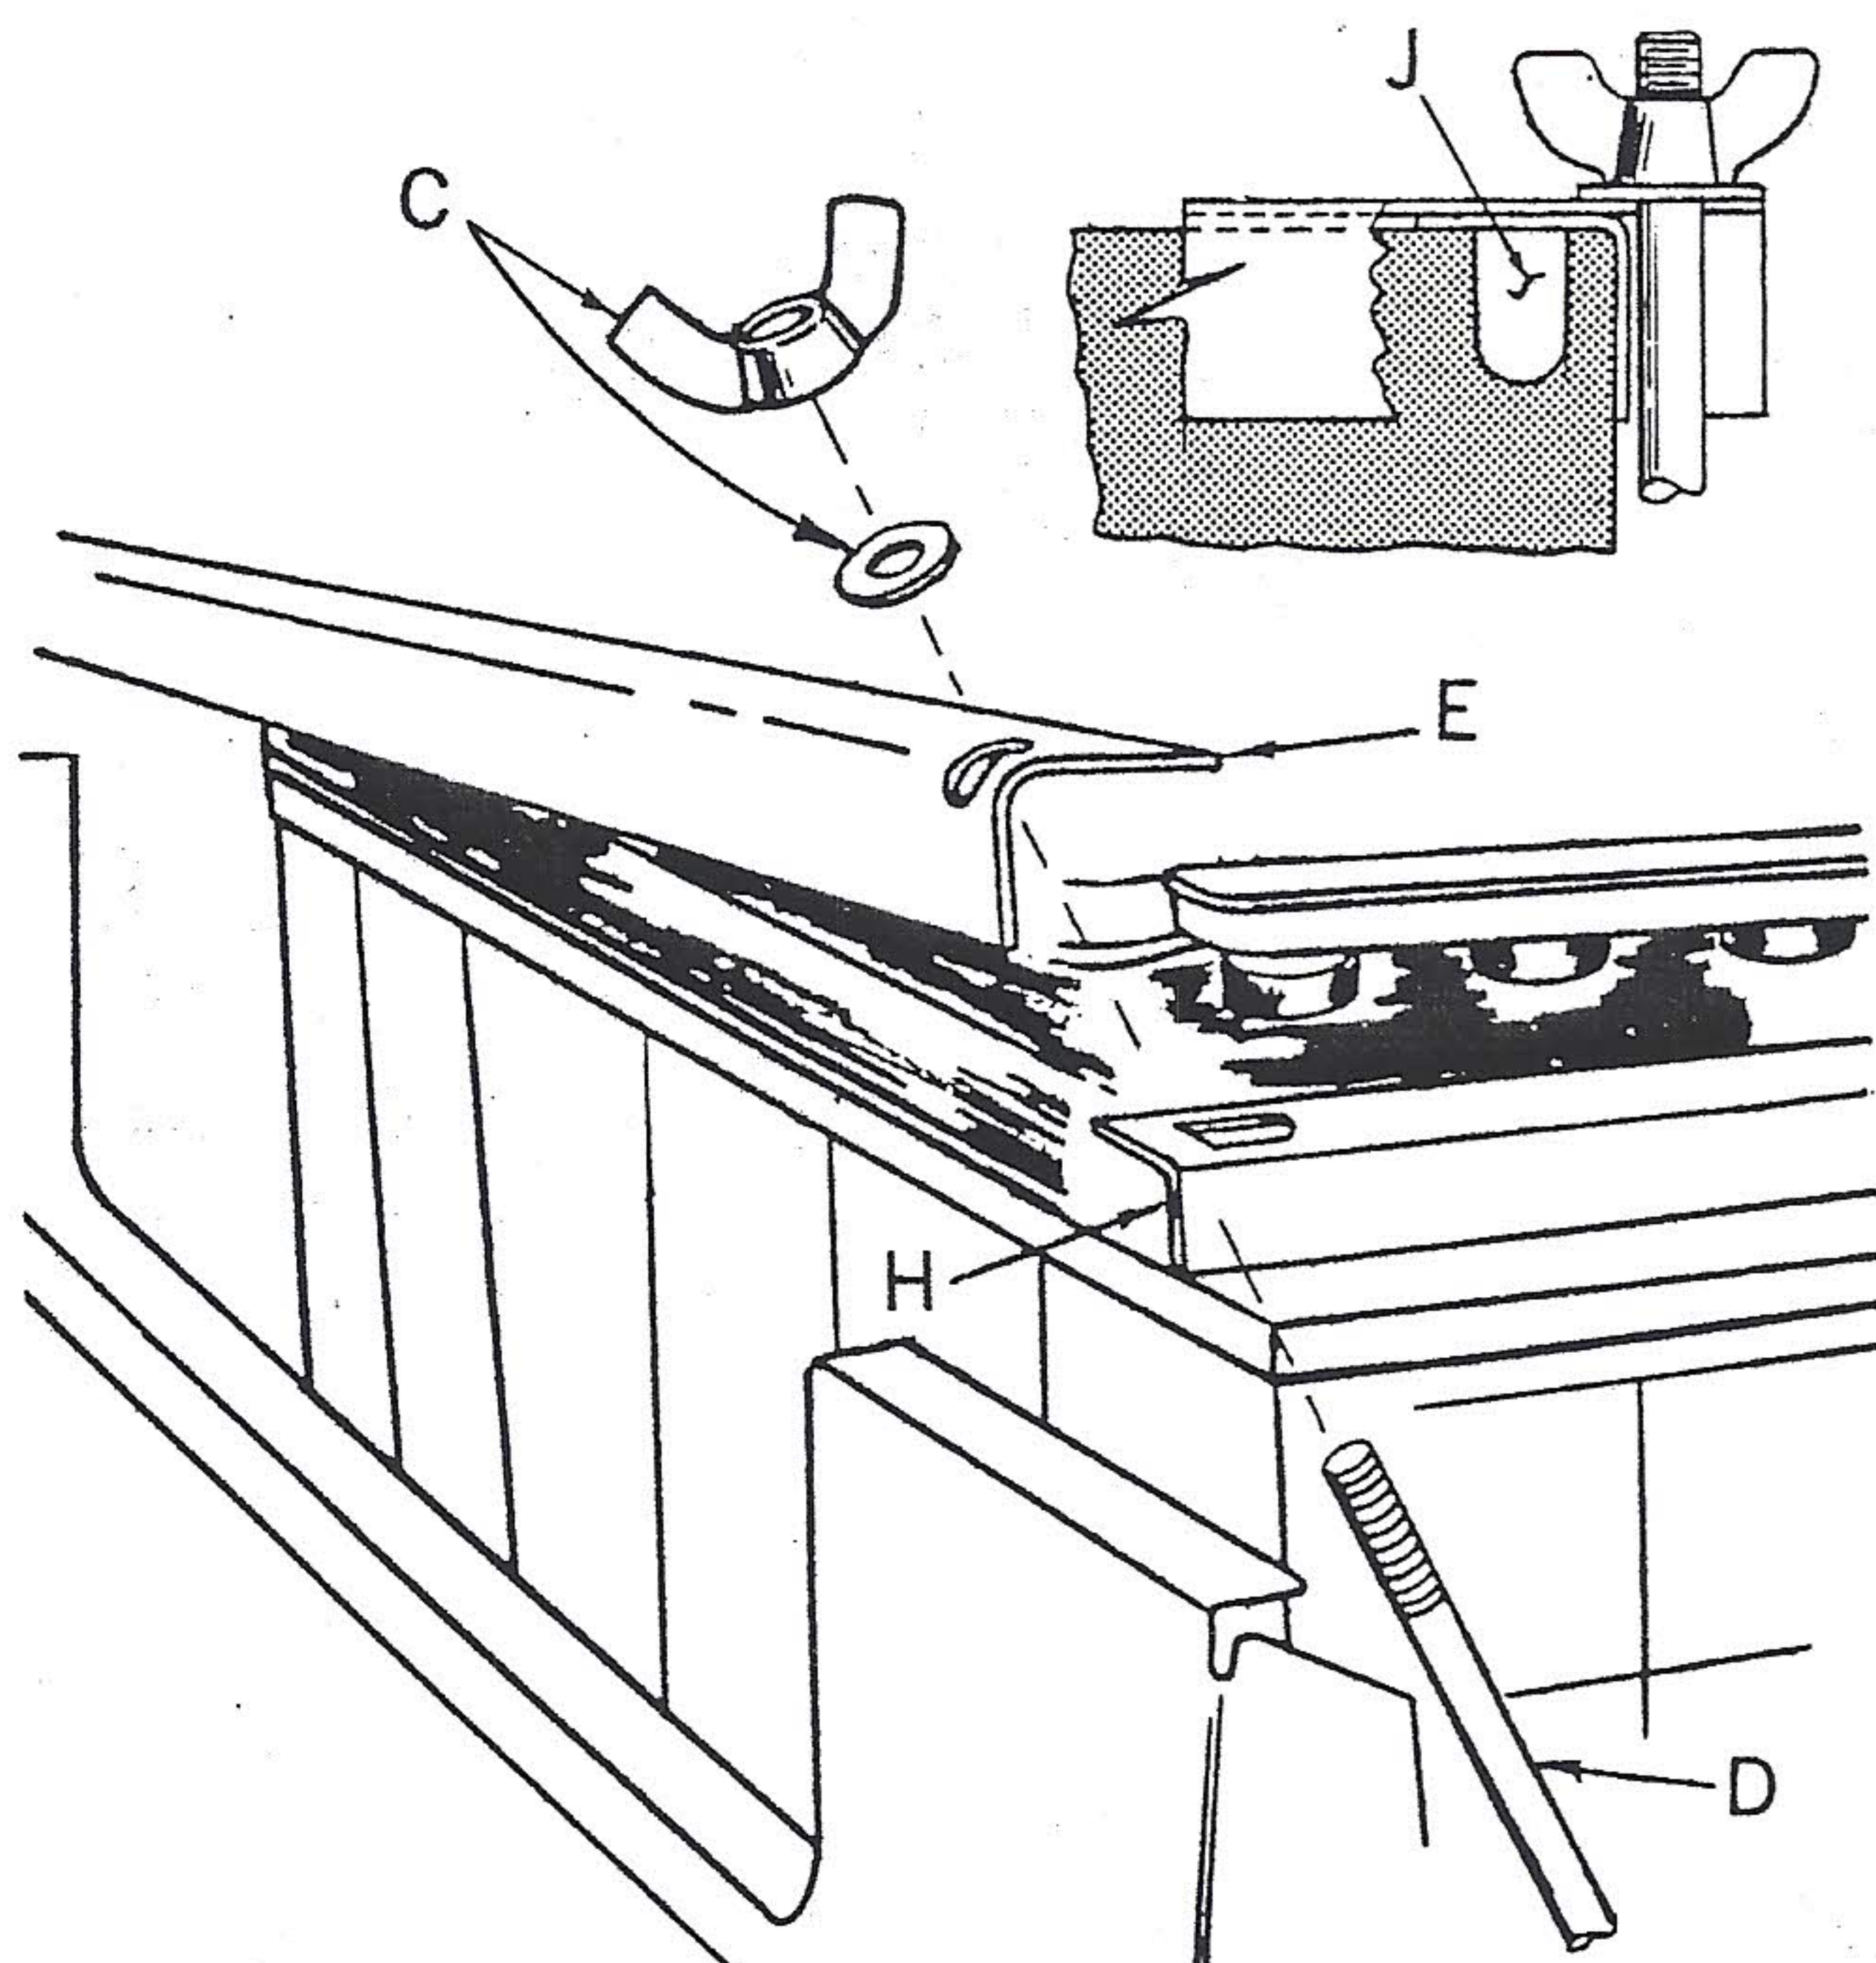

FIG. 48
10. Reverse procedure for reassembly. Fig. 48 illustrates the proper assembly of side straps (E) and front strap (H). Front battery bolts (D) hold front strap (H) in place. Tab (J) on front strap (H) must be positioned toward battery. Tighten wing nut (C), by hand only. Overtightening may crack the batteries.